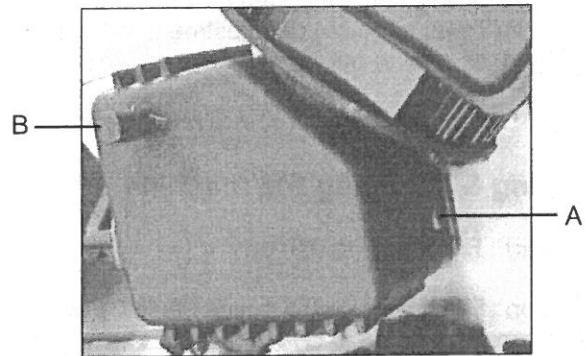

Fig. 18
3. Remove screws (A, Fig. 18) from the gear box
6. Tighten the screw (A, Fig. 18) and remove the plug (B, Fig 18) Fill gear box with approximately 0.3liter of 90-weight gear oil.
7. Fasten screw (B, Fig 18).